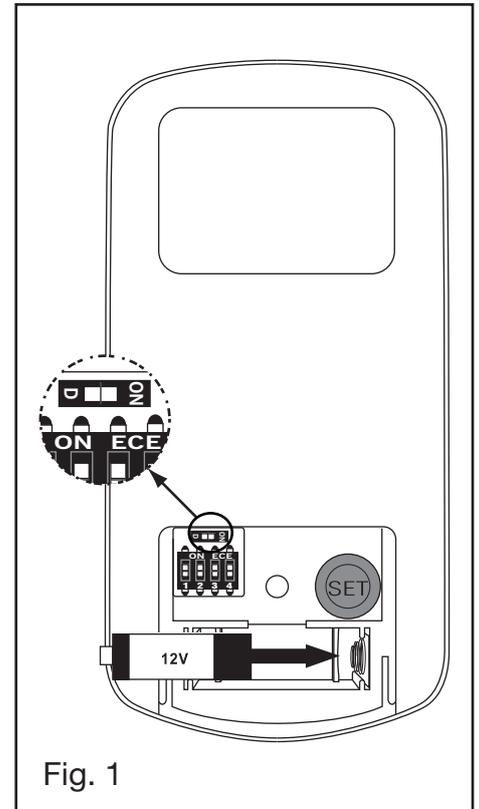

Fig. 1
1. Remove one of the three screws on the mounting hub located on the fan motor. Loosen the other 2 screws. (Do not remove) (Fig. 1)
Install one 23A/12V battery (included). To prevent damage to transmitter, remove the battery if not used for long periods of time (Fig. 1)
A DOWNWARD airflow creates a cooling effect as shown in Figure 1. This allows you to set your air conditioner on a warmer setting without affecting your comfort.